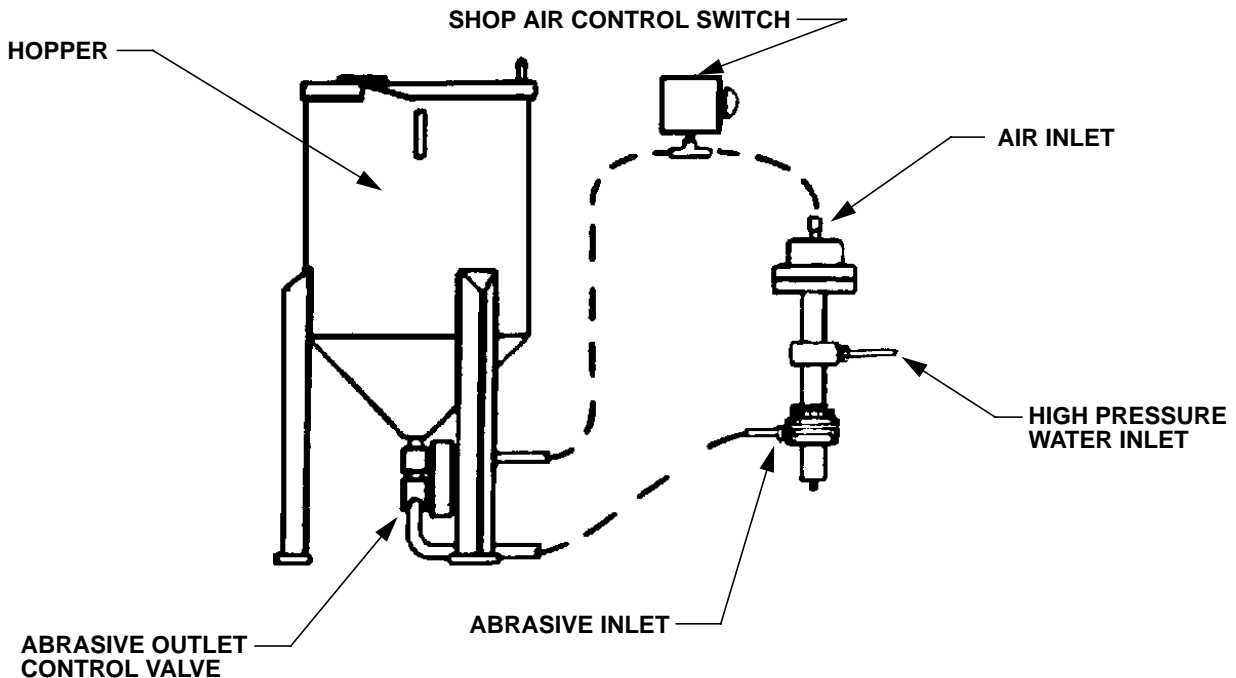

FIGURE 2 - GENERAL DESCRIPTION OF MODEL 425 PASER
- 5.1.1 The waterjet cutting system cuts by concentrating a small diameter, high velocity stream of water on the material being processed. The Model 425 Paser Abrasive Jet Delivery System may be attached to the Instajet nozzle bodies of the Model G-411-A and Model 408 cutting machines to mix garnet abrasive material with the high pressure water stream (see Figure 2). Refer to section 5.2 for a description of the basic operation of the Model 425 Paser.